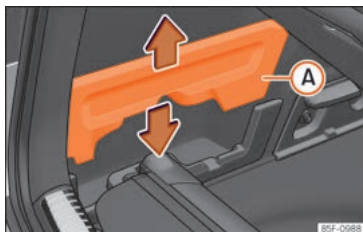

Fig. 177 In the boot: space to store the retractable shelf.
- Remove covers »» Fig. 177 (A) left and right.